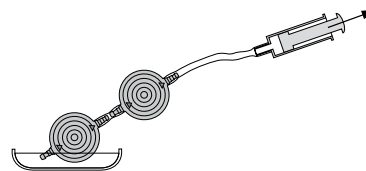

Fig. 21: Patency test
M.blue plus should be vented before implantation and checked for permeability. The most careful way of filling the valve is by aspiration through a sterile single-use syringe attached to the distal end of the catheter. The distal end of the valve is connected and immersed in a sterile physiological salt solution. The valve is continuous if saline solution can be extracted (Fig. 21).